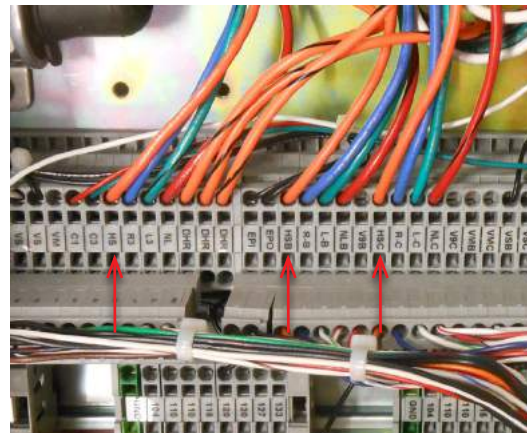

Figure 8. Identifying the orange holding switch wires.
- On the back panel behind the CL-7 multi-phase control, identify the three orange holding switch wires as shown in Figure 8. The wires are connected as follows: